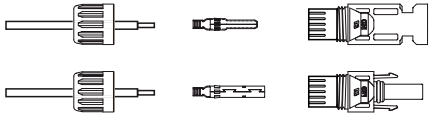

Figure 5.13 Disassemble the Connector Cap nut
1. Strip off the DC wire for about 7mm, Disassemble the connector cap nut. (see Figure 5.13)